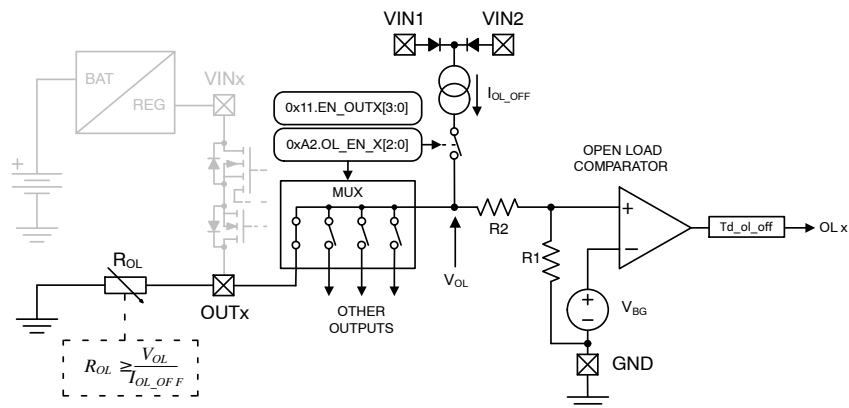

Figure 24. Off-state Open Load (OL) Detection Block
An off-state open load (OL) diagnostic augments the embedded current sense ADC. The diagnostic is implemented using a single current source and voltage comparator detection block along with a multiplexer. The detection block is routed to one of the four outputs via the 0xA2/R3 CONFIGURATION 2 register's OL_EN_x[2:0] bits. Figure 24 shows the basic open load diagnostic topology.